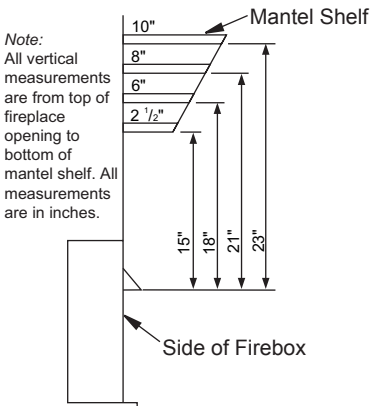

Figure 11 - Minimum Mantel Clearances for Built-In Installation
C. For mantel clearances, see Figure 11 on page 12.
Built-in installation of this fireplace involves installing fireplace into a framed-in enclosure. This makes the front of fireplace flush with wall. Trim will extend past sides of fireplace approximately 1/2". This will cover the rough edges of the wall opening. If installing a built-in mantel above the fireplace, you must follow the clearances shown in Figure 11, page 12. Follow the instructions below to install the fireplace in this manner.